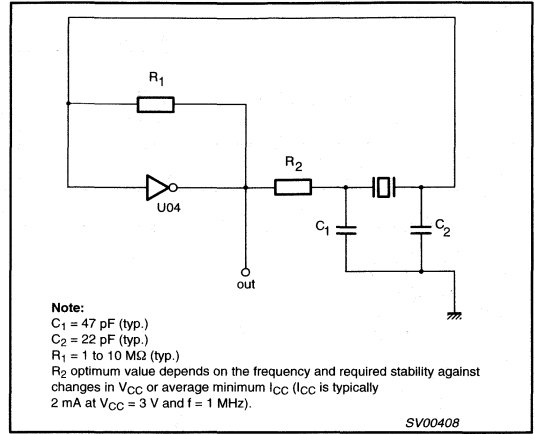

Figure 5. Crystal oscillator configuration.
- In crystal oscillator designs (see Figure 5)
**Note to Figure 5**